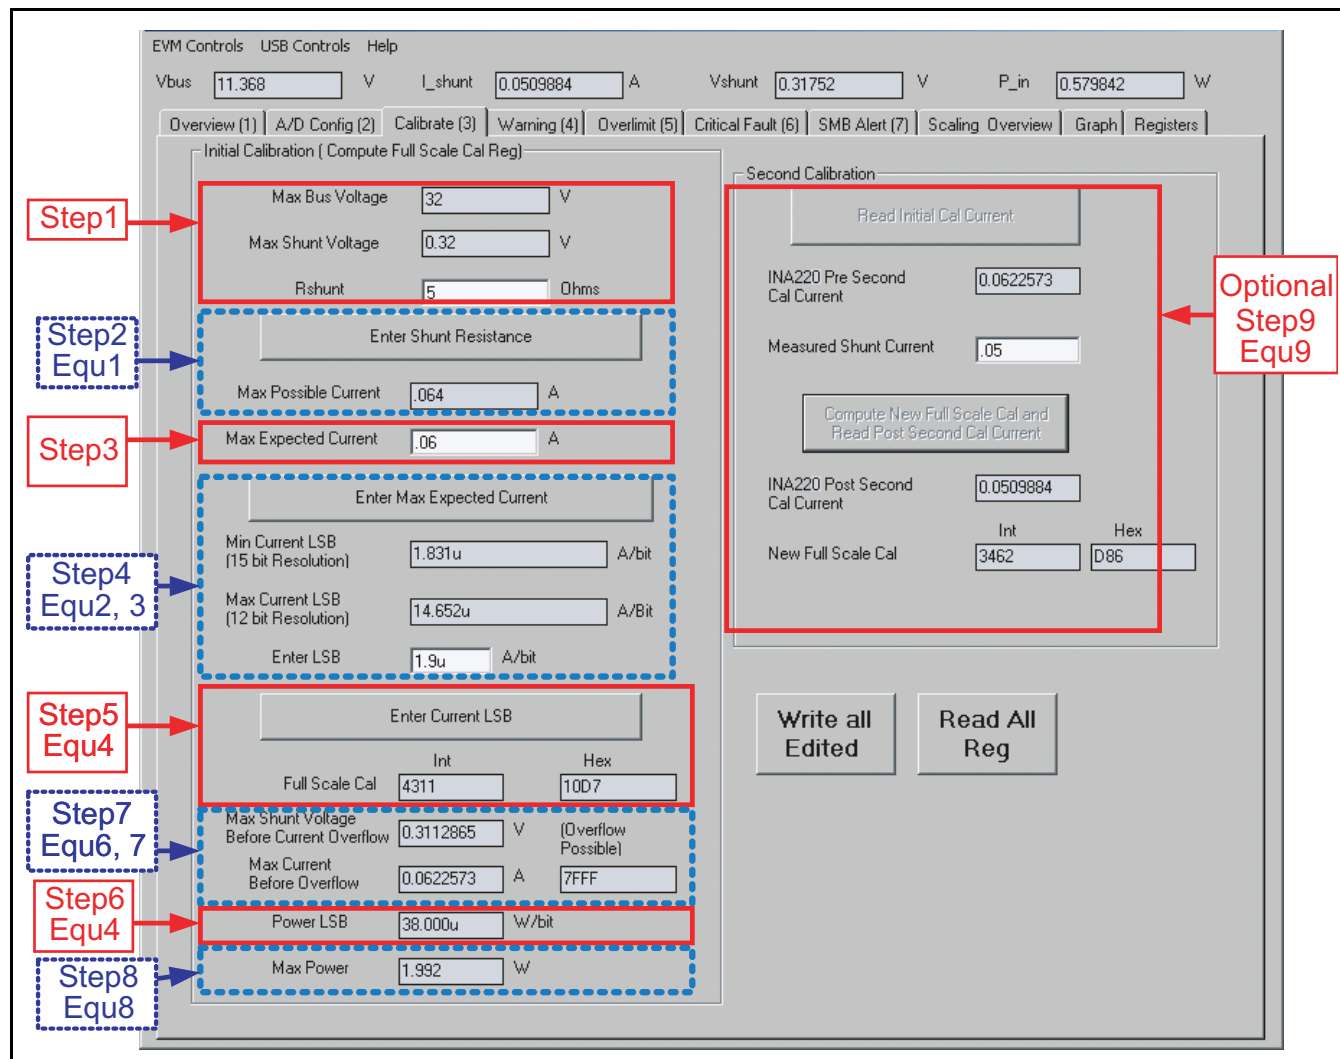

Figure 20. INA220B-Q1 EVM Calibration Software Automatically Computes Calibration Steps 1-9
**Calibration Example 1: Calibrating the INA220B-Q1 device with no possibility for overflow. (Note that the numbers used in this example are the same used with the INA220B-Q1 EVM software as shown in Figure 20)**
$$\text{Max\_Current\_Before\_Overflow} = 0.64 \quad (\text{Note: This result is displayed by software as seen in Figure 20})$$
$$\text{Max\_ShuntVoltage\_Before\_Overflow} = 0.32 \quad (\text{Note: This result is displayed by software as seen in Figure 20})$$
Figure 20 illustrates how to perform the same procedure discussed in this example using the automated INA220B-Q1 EVM software. Note that the same numbers used in the nine-step example are used in the software example in Figure 20. Also note that Figure 20 illustrates which results correspond to which step (for example, the information entered in step 1 is enclosed in a box in Figure 20 and labeled).